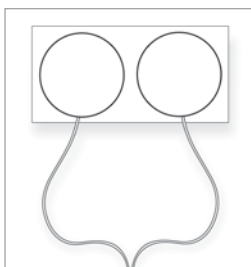

Figure 1
Electrodes are provided for patient use. Low profile Electrodes (Figure 1) are to be used in all applications of the OrthoPak®. Electrodes are mounted on a release liner and are effective for multi day use. (See page 14) A supply of electrodes is included with every assembly. The patient should replace electrodes every 1 to 7 days. Patients can order additional electrodes by calling 800-526-2579 and then dialing extension 6000.
1. Connect the two electrode wires into the electrode lead wire. Insert the electrode lead wire plug into the jack at the top of the stimulator controller (Figure 1). Choose the electrode lead wire that reaches from the location of the device or device holster to your fracture site (where your electrodes should be placed). The device holster can be worn on a belt, attached to your waistband, or clipped onto the extremity band.
2. Remove the fully charged battery pack from the battery charger cradle by a gentle lift (2) of the small tab (1). The battery is now ready for connection to the OrthoPak®.
3. Insert the battery pack into the OrthoPak® by placing it into the battery compartment (1) (replace the cover by sliding back to its closing position). The cover will snap into place (2).